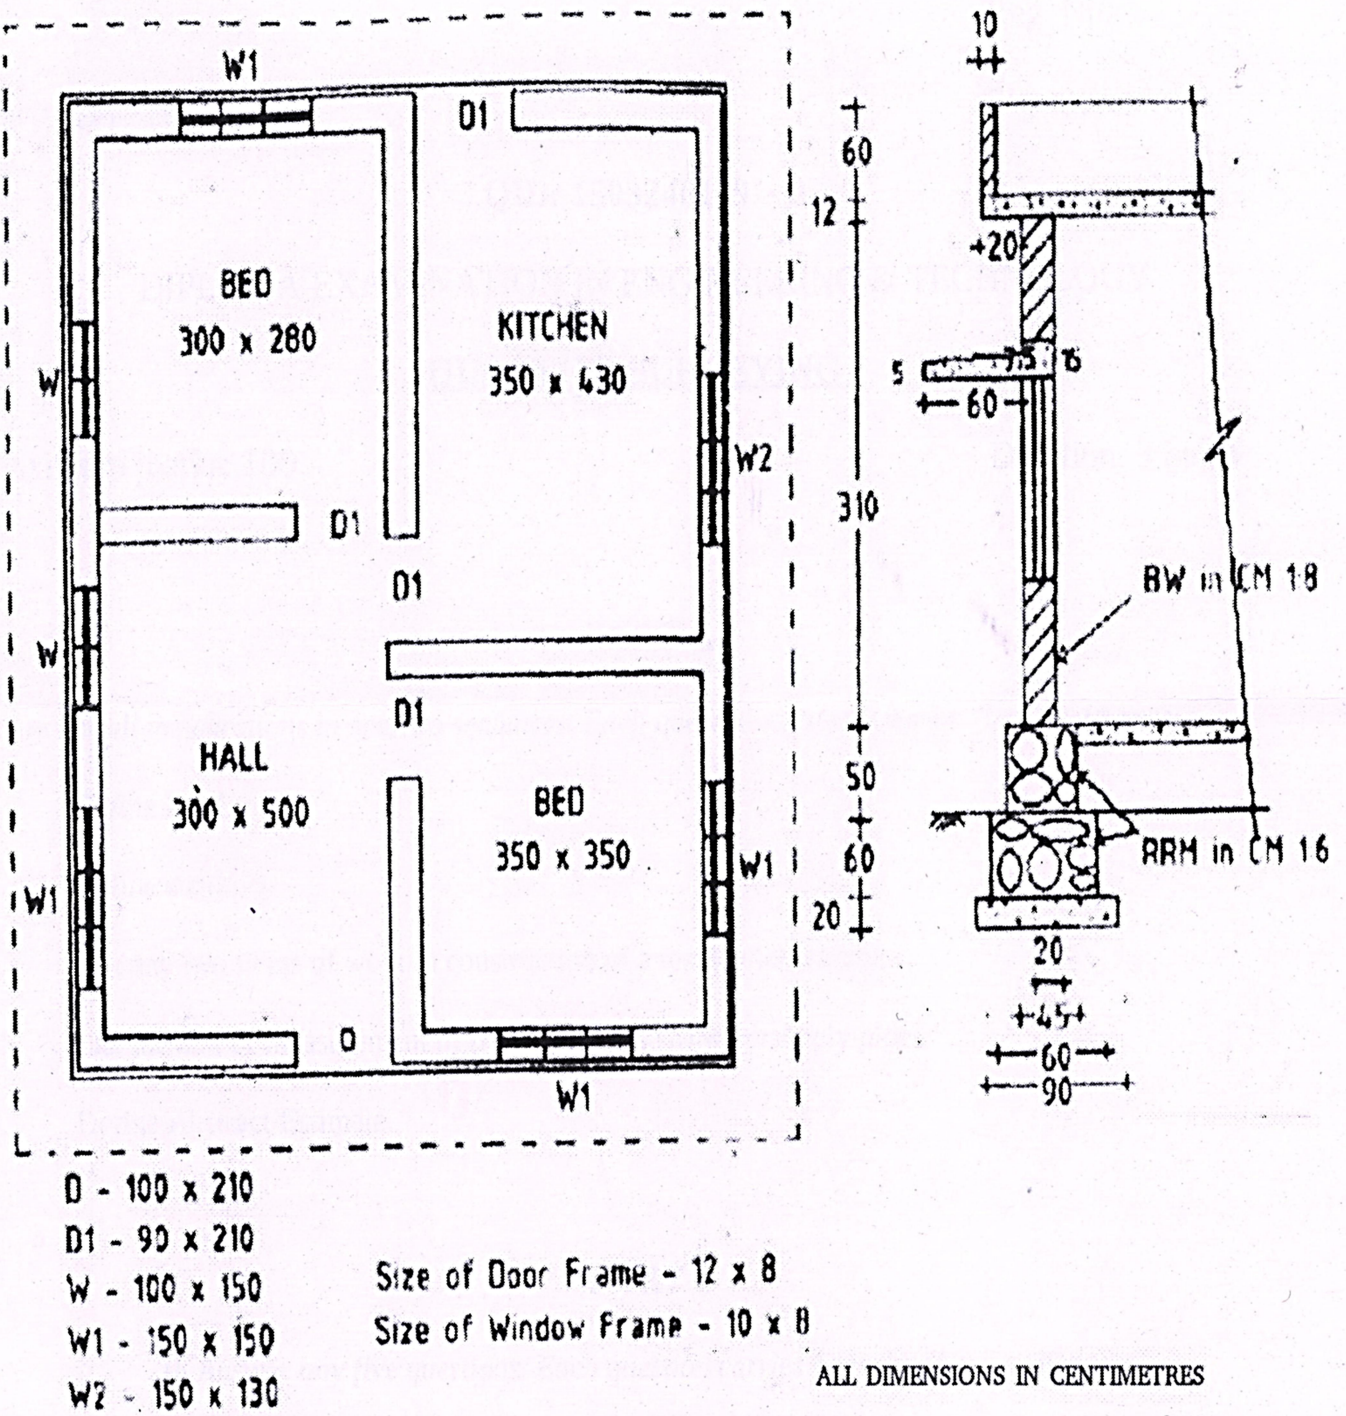

Fig. 1 Plan and Sectional Elevation of Building
- V. (a) Calculate the quantity of PCC in foundation for building shown in Fig.1. (7)
- (b) Determine the quantity of RR masonry in basement for the building shown in Fig.1. (8)
- VI. (a) Calculate the quantity of wood work in frames of windows for the building shown in Fig.1. (7)
- (b) Determine the quantity of RCC 1:1.5:3 for roof slab for the building shown in Fig.1. (8)